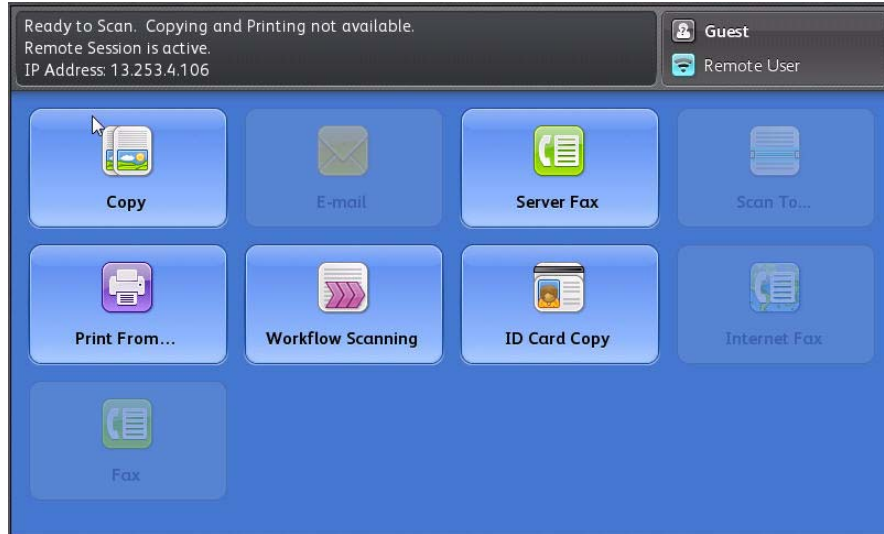

Figure 1 Home Screen Fault Code Display
- Error messages and fault codes displayed on the Control Panel (Figure 1).